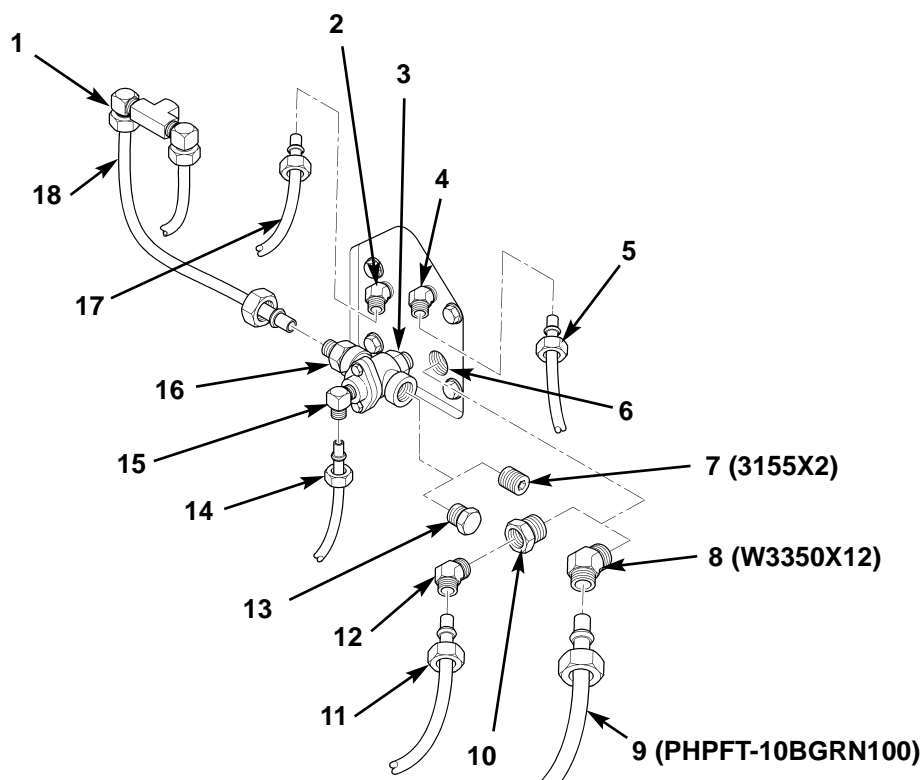

Figure 58. Installing 5/8 Tube on Brake Treadle Valve.
38. Disconnect tubes (figure 58, items 5, 11, 14, 17, and 18) from adapter (figure 58, item 16) and elbows (figure 58, items 1, 2, 4, 12, and 15). Cut off and discard tube (figure 58, item 11).
39. Rotate double check valve (figure 58, item 3) 1/4 turn counterclockwise, and remove elbow (figure 58, item 12) and reducer bushing (figure 58, item 10) from brake treadle valve (figure 58, item 6).
40. Remove hex-head plug (figure 58, item 13) from double check valve (figure 58, item 3), and install socket-head plug (figure 58, item 7) on double check valve (figure 58, item 3) in its place.
41. Install new elbow (figure 58, item 8) on brake treadle valve (figure 58, item 6), rotate double check valve (figure 58, item 3) 1/4 turn clockwise, and connect tubes (figure 58, items 5, 14, 17, and 18) to elbows (figure 58, items 2, 4, and 15) and adapter (figure 58, item 16).
42. Cut and route new 168 in. (427 cm) 5/8 in. (16 mm) green tubing (figure 58, item 9) under truck cab up to location at brake treadle valve (figure 58, item 6), and connect end of tube (figure 58, item 9) to elbow (figure 58, item 8) on brake treadle valve (figure 58, item 6).